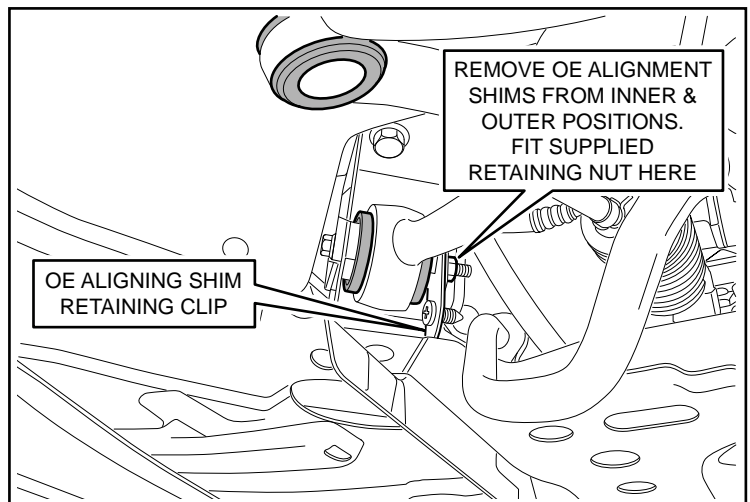

Fig.2
2. Remove the front wheels and front radius rod to chassis retaining bolt. (Refer to Fig. 2)
3. Remove OE wheel aligning shims and discard. (Refer to Fig. 2)